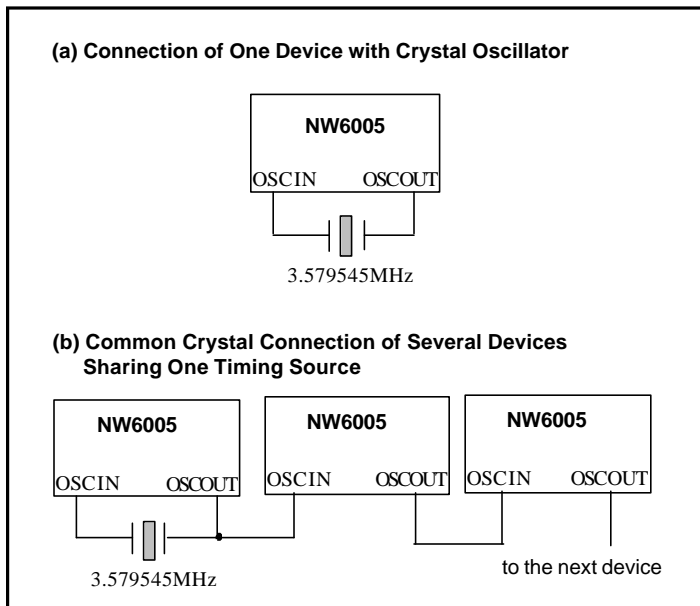

Figure 8. Application of Clock Driven Circuit
A 3.579545 MHz crystal oscillator or other external clock source is required for NW6005. The crystal can be directly connected between OSCIN and OSCOUT pins without any external component. If an external clock source is used, OSCIN pin should be driven by the clock source and OSCOUT pin is left floating or is used to drive other devices. Fig. 8 shows some applications.
- 2) By choosing  $t_{GA} = 15 \text{ ms}$ ,  $t_{ABS}$  will be 15-25 ms (refer to Fig. 8). Current wetting pulse and AC/DC load should be applied right after the STD rising edge.